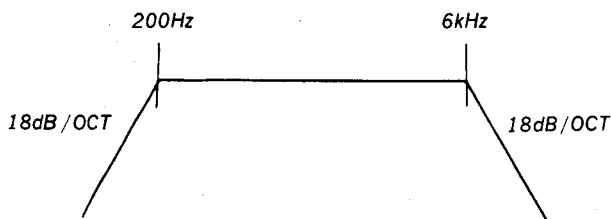

Fig. 3-21
- *¹ The value in case of using a distortion measuring filter (Fig. 3-21).